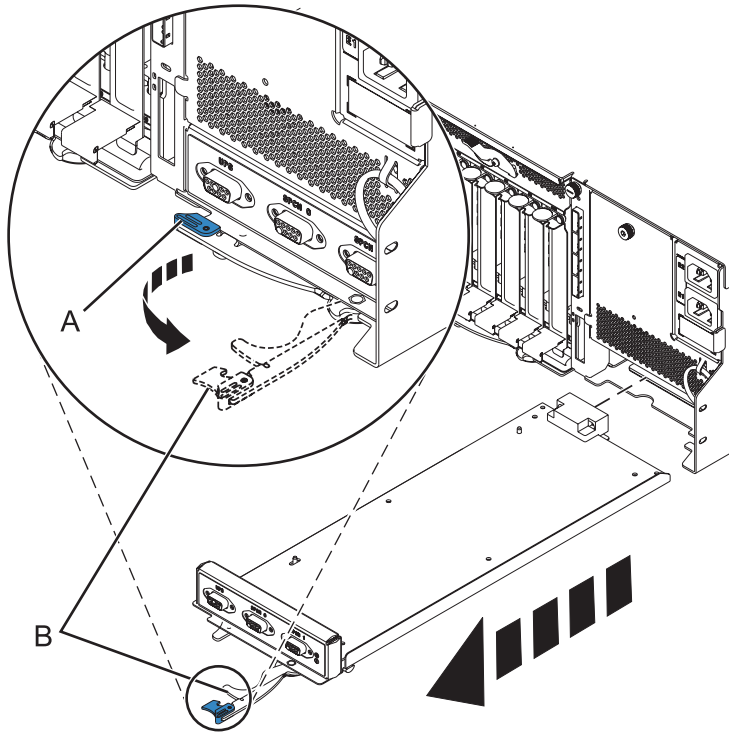

Figure 69. Remove the enclosure management controller
- b. Pinch the latch (A) to unlock the handle (B). See Figure 69 on page 87.